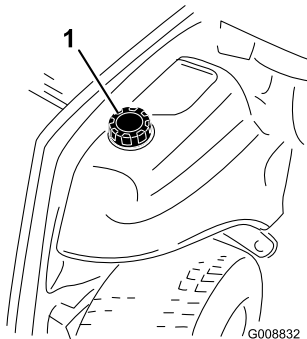

Figure 20
3. Remove cap from the fuel tank (Figure 20).